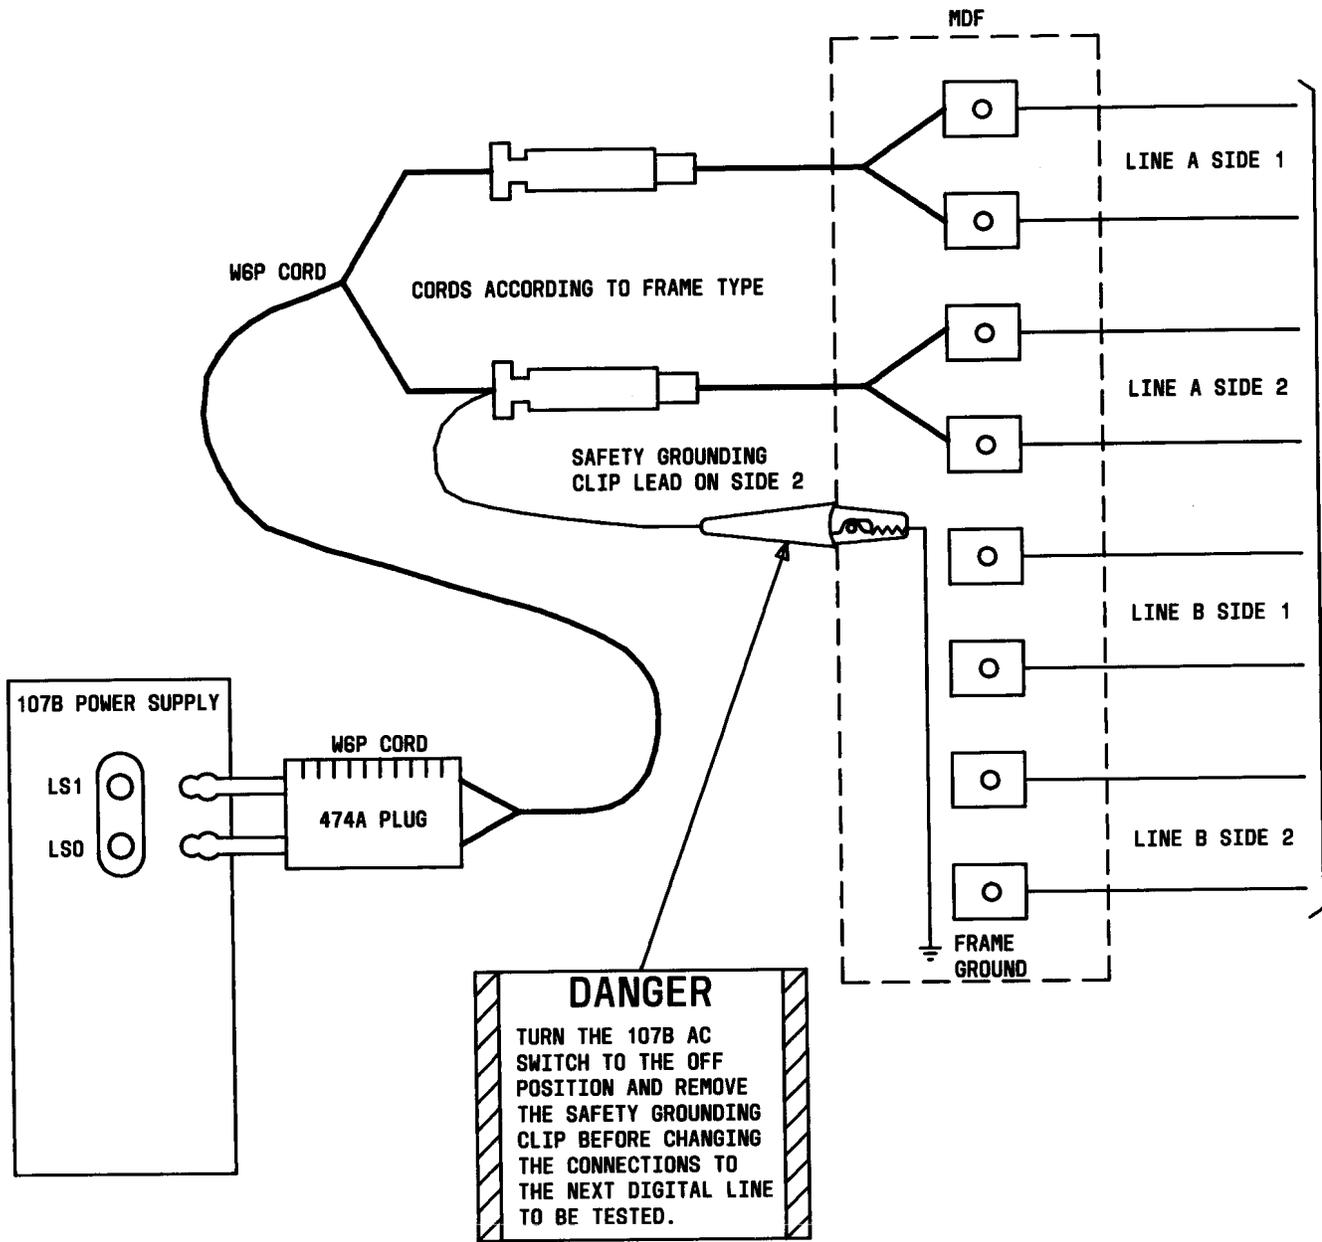

Fig. 2—Test Arrangement at MDF Using the 107B Power Unit
- 5 Complete the following patch/test cord connections in the order given (see Fig. 2).
**Note 2:** Verify that the connections are as given in Step 5 and Fig. 2; otherwise, incorrect readings will result.